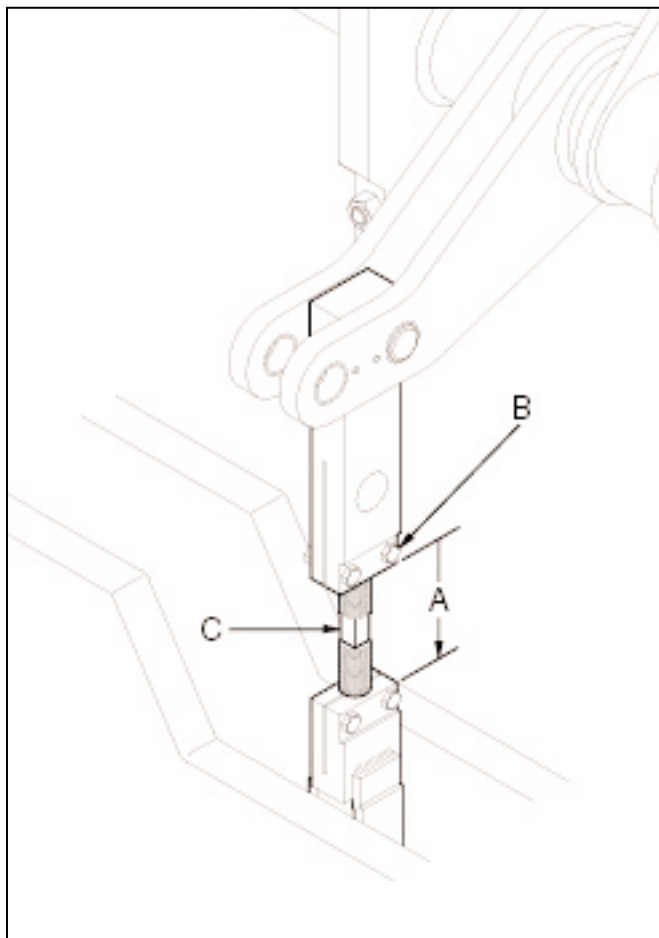

Figure 4.9 ADJUSTING STRIPPER HEAD LINKS
4.1.16 Adjust the stripper head links to a dimension of **3 5/8" [92mm]** (A) between link ends (see figure 4.9). To do so, loosen the two bolts (B) and turn up or turn down (C) with a wrench.